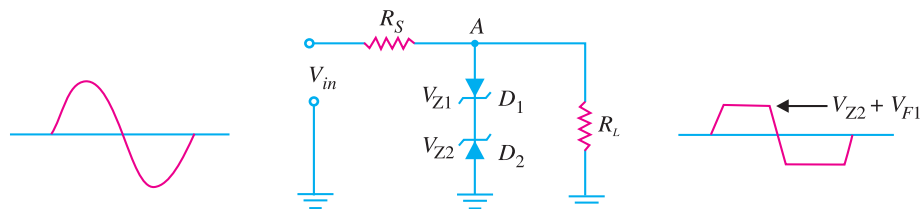

Fig. 18.43
**Example 18.17.** Fig. 18.43 shows a symmetrical zener shunt clipper with sine wave input. Determine the output waveform.
**Solution.** The *symmetrical zener clipper* uses two zener diodes that are connected as shown in Fig. 18.43. When the input is positive,  $D_1$  is forward biased and  $D_2$  is reverse biased (assuming that the value of  $V_{in}$  is high enough to turn both diodes ON). When both diodes are conducting, the voltage from point A to ground will be equal to the sum of  $V_{Z2}$  and the forward voltage drop of  $D_1$  i.e.,  $V_{F1} = 0.7V$ .